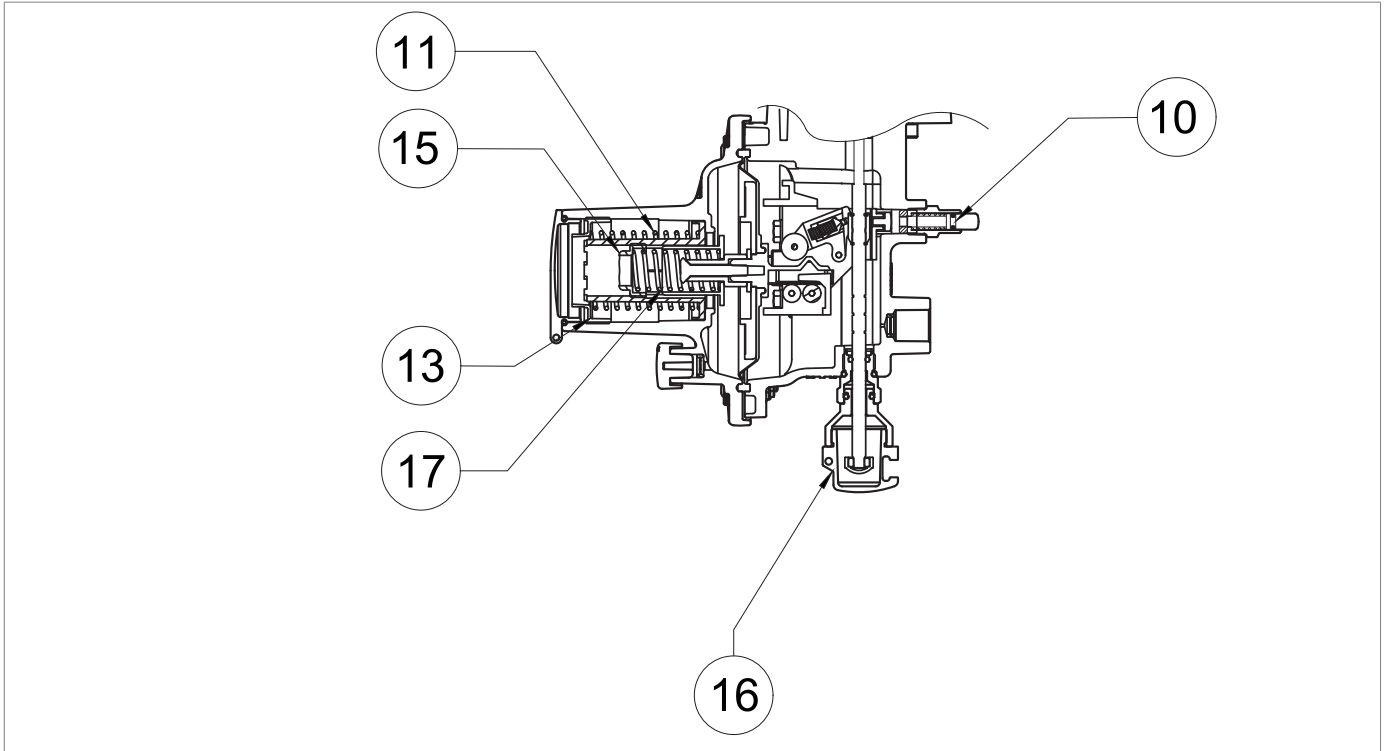

Fig. 8.20. Calibration of pressure switch for LA slam-shut valve
| 4 | <p>If the slam-shut valve:</p> <ul style="list-style-type: none"> trips before the expected pressure value, unscrew (anticlockwise) the adjustment ring nut (fig. 8.20, ref. 15), to relieve the spring (fig. 8.20, ref. 17); does not trip at the expected pressure value, screw in (clockwise) the adjustment ring nut (fig. 8.20, ref. 15) to further compress the spring (fig. 8.20, ref. 17). |
| 6 | Open the slam-shut valve by acting on the reset knob (fig. 8.20, ref. 16) and keep it open manually. |
| 8 | Set the slam-shut valve by acting on the reset knob (fig. 8.20, ref. 16). |